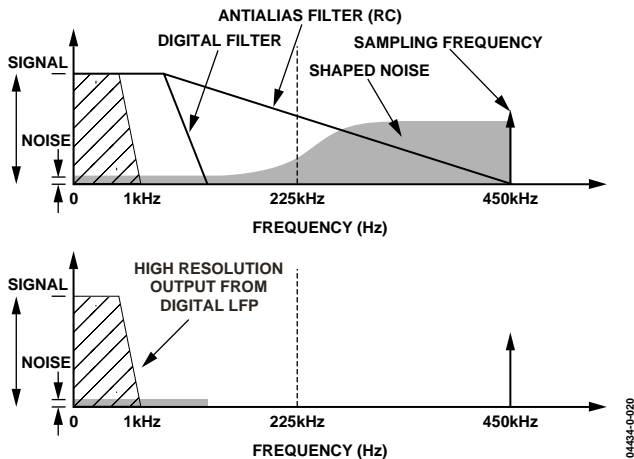

Figure 15. Noise Reduction Due to Oversampling and Noise Shaping in the Analog Modulator
The  $\Sigma$ - $\Delta$  converter uses two techniques to achieve high resolution from what is essentially a 1-bit conversion technique. The first is oversampling, which means that the signal is sampled at a rate (frequency) that is many times higher than the bandwidth of interest. For example, the sampling rate in the ADE7760 is CLKIN (450 kHz) and the band of interest is 40 Hz to 1 kHz. Oversampling has the effect of spreading the quantization noise (noise due to sampling) over a wider bandwidth. With the noise spread more thinly over a wider bandwidth, the quantization noise in the band of interest is lowered (see Figure 15).
However, oversampling alone is not an efficient enough method to improve the signal-to-noise ratio (SNR) in the band of interest. For example, an oversampling ratio of 4 is required just to increase the SNR by only 6 dB (1 bit). To keep the oversampling ratio at a reasonable level, it is possible to shape the quantization noise so that the majority of the noise lies at the higher frequencies. This is what happens in the  $\Sigma$ - $\Delta$  modulator; the noise is shaped by the integrator, which has a high-pass type response for the quantization noise. The result is that most of the noise is at the higher frequencies where it can be removed by the digital low-pass filter. This noise shaping is also shown in Figure 15.
Figure 15 also shows an analog low-pass filter (RC) on input to the modulator. This filter is present to prevent aliasing. Aliasing is an artifact of all sampled systems, which means that frequency components in the input signal to the ADC that are higher than half the sampling rate of the ADC appear in the sampled signal frequency below half the sampling rate.